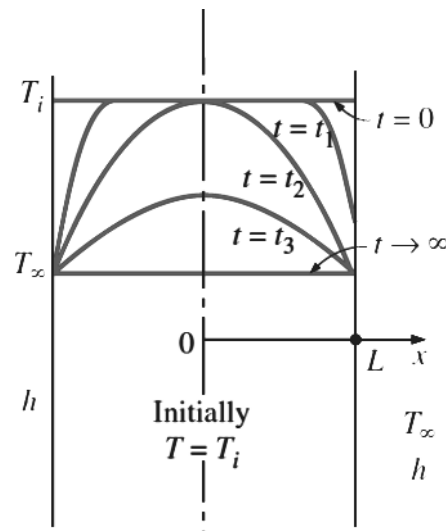

Fig. 4.5 Transient heat conduction in large wall, cylinder and sphere
- The variation of temperature profile with respect to time in plane wall is shown in figure 4.5.